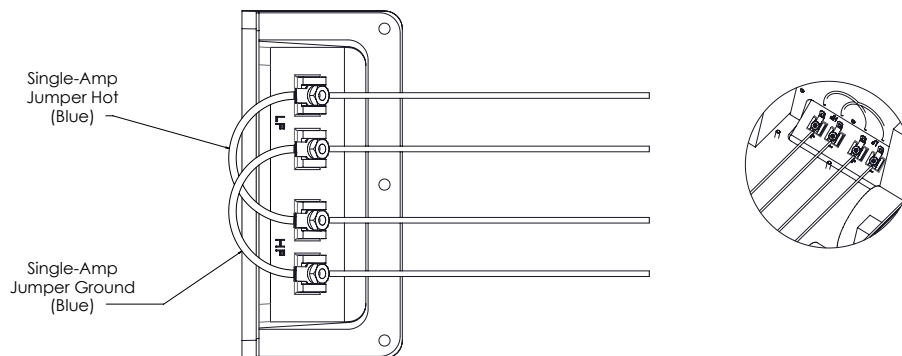

Figure 11
4. Before installing the speaker that will be bi-wired or bi-amplified, remove the two blue jumpers, Bi-amp Jumper Hot and Bi-amp Jumper Ground (Figure 11). The blue jumpers are located on the terminal cup on the inside of the back box. Squeeze the connectors for the jumpers just below where the wire is crimped to the connector to release the connector lock. If this doesn't work, slide the plastic boot back onto the wire and depress the lever for the lock with a ballpoint pen or small tool while pulling gently on the wire.